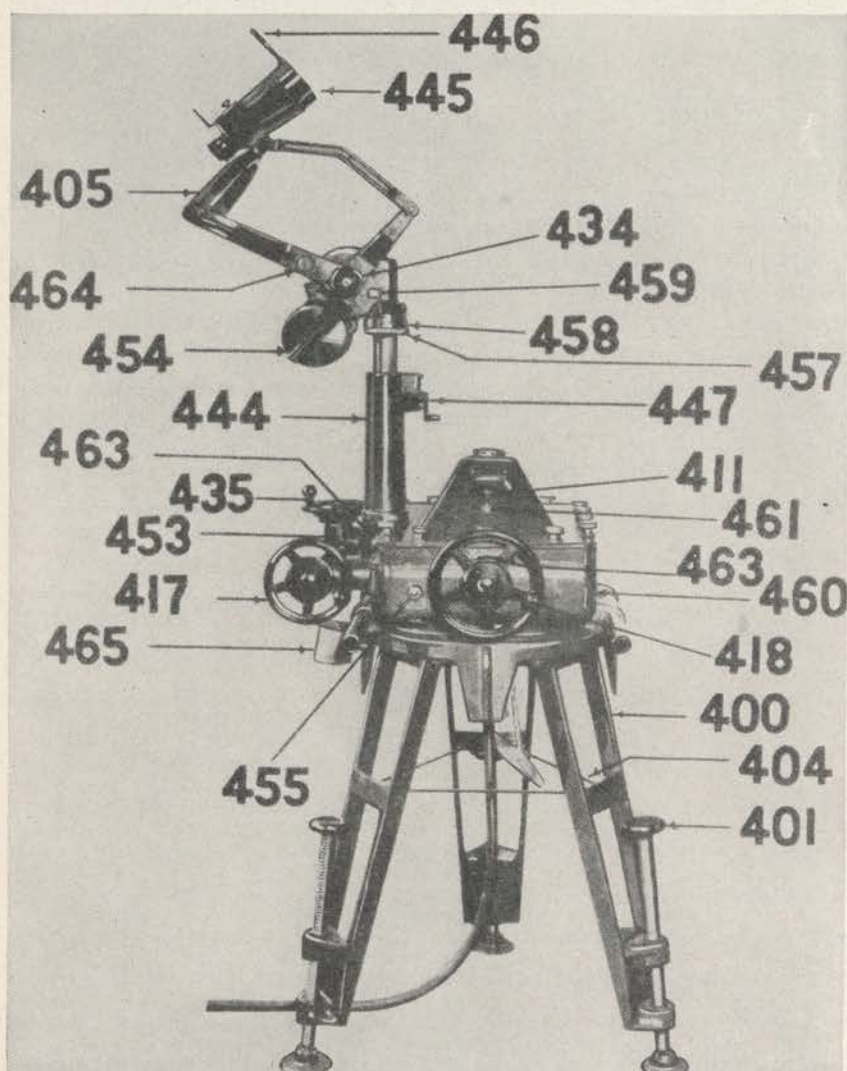

FIGURE 16.—General Electric M1940 control station (right side view).
*Q.* Name and give the functions of the various parts of the 1940 General Electric control station. *A.* See figures 16 and 17.
401. Leveling jack.....	See figure 16.
417. Observer's elevation handwheel.	See figure 16.
418. Elevation zero reader's handwheel.	See figure 16.
434. Binocular linkage clamp.	See figure 16.
435. Observer's azimuth handwheel.	See figure 16.
446. Open sight.....	See figure 16.
453. Binocular column lock clamp.	See figure 16.
454. Binocular positioning handles.	See figure 16.
463. Level.....	See figure 16.